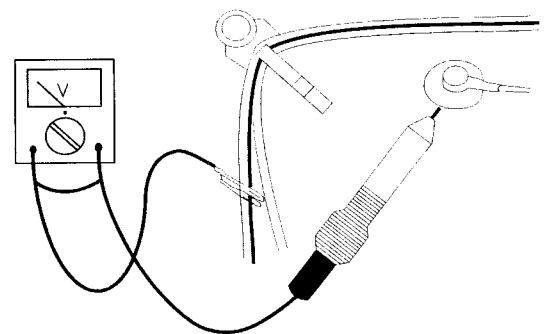

Fig.1
2. In order to prevent damage to ICs and transistors, all high-voltage flash-overs must be avoided. In order to prevent damage to the picture tube, the method shown in Fig. 1 should be used to discharge the picture tube. Use a high-voltage probe and a multimeter (position DC-V). Discharge until the meter reading is **0 V** (after approximately 30 seconds).